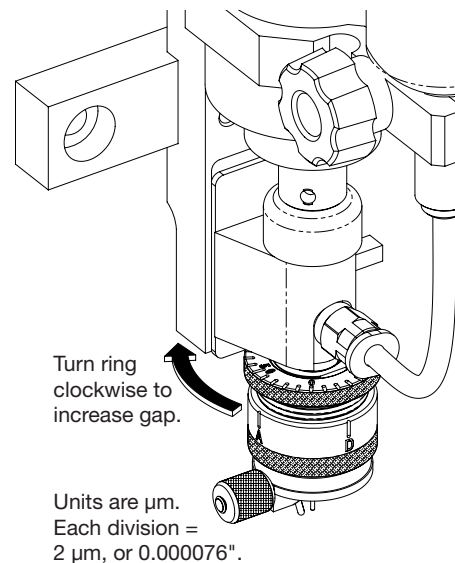

Figure 7. Adjusting Gap
3. Follow the procedure outlined in Figure 7 to set the gap between the substrate and the tip. If a non-chamfered tip is being used, set the gap to approximately 25% of the outside tip diameter.
Dispense time is the primary method of making small adjustments in deposit size. In general, larger deposits require longer dispense times, larger diameter tips, and larger gaps (see Figure 7). Be sure to allow settling time (before dispense) and dwell time (after dispense). Very small deposits may require chamfered tips. Air pressure should be set to a point just below where drooling occurs without the auger turning.